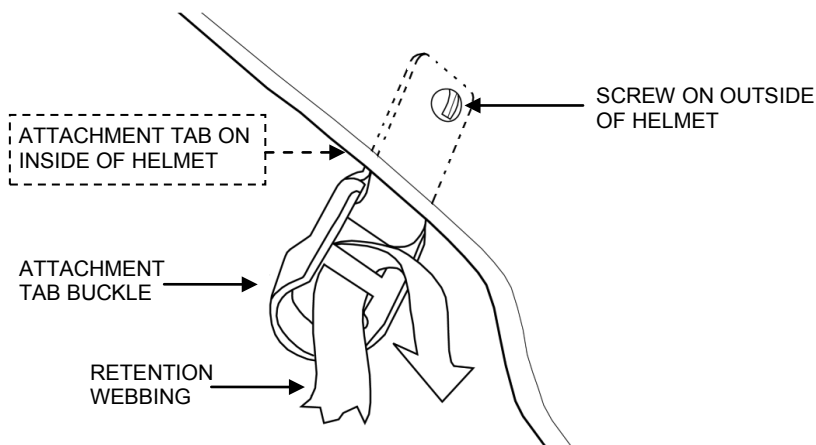

Figure 1. H-Back Retention System Attachment Tab and Buckle.
- a. For helmets with H-back retention systems, remove loose ends of retention system webbing from elastic bands. Then unthread and remove the chinstrap retention system webbing from the four buckles on the attachment tabs, as shown in Figure 1.